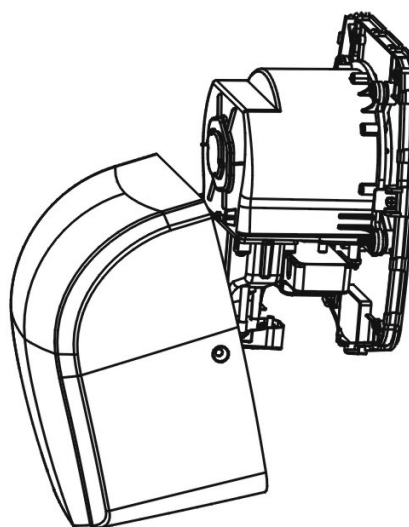

fig. 5
3. Put on the cover, in the direction as shown in the figure below, to cover the hand dryer. Fix the shell to the base board using screws provided (Fig. 5)